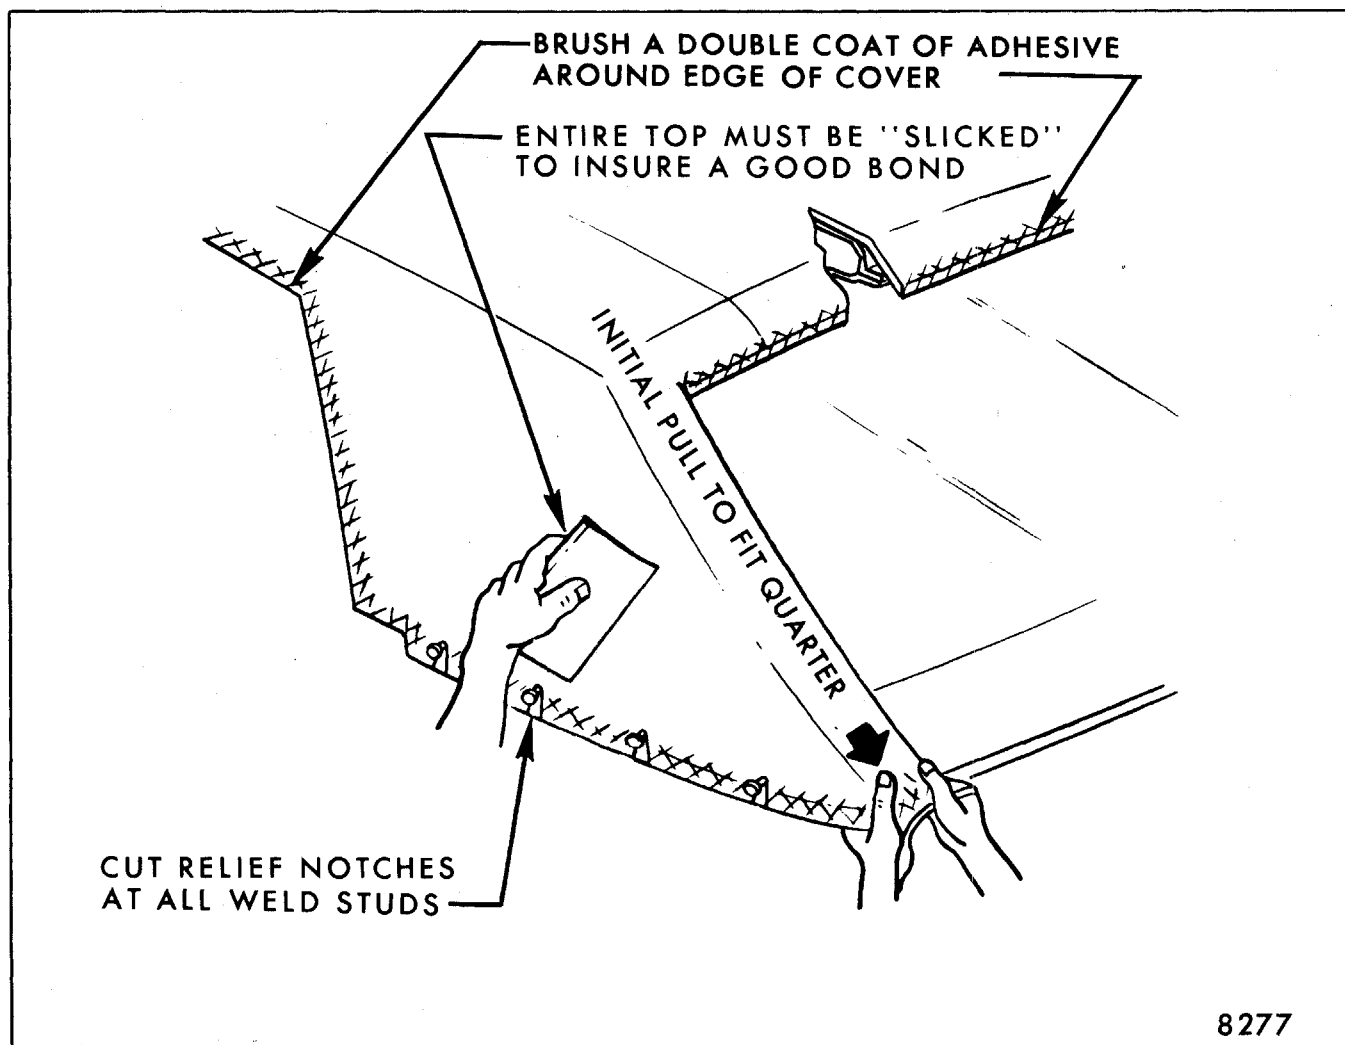

Fig. 8-36-Cementing Cover to Quarter Upper
10. On all styles, cement cover to quarter upper area by pulling cover down and rearward. When operation is completed, cover should be free of all wrinkles and draws in this area (Fig. 8-36).